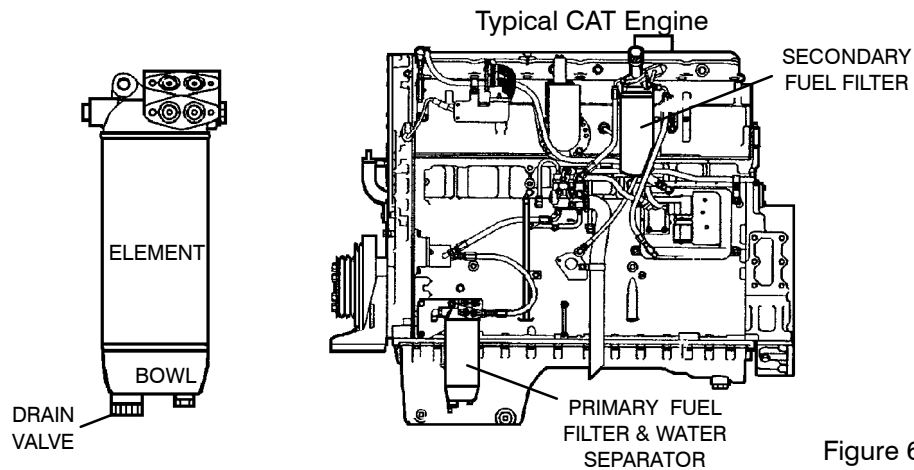

Figure 6.9–1
2. Open the self-ventilated drain (see Figure 6.9–1). Catch the draining water in a suitable container and dispose of the water properly.